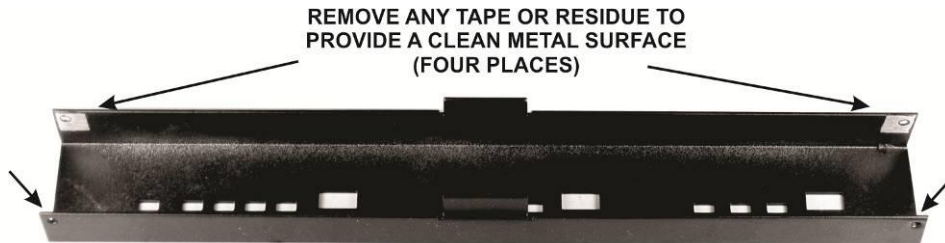

Figure 31. Preparing the Front Panel for Installation.
□ Locate the front panel and inspect the inside surface around the four screw holes (see Figure 31). Remove any tape or residue to provide a clean metal surface.